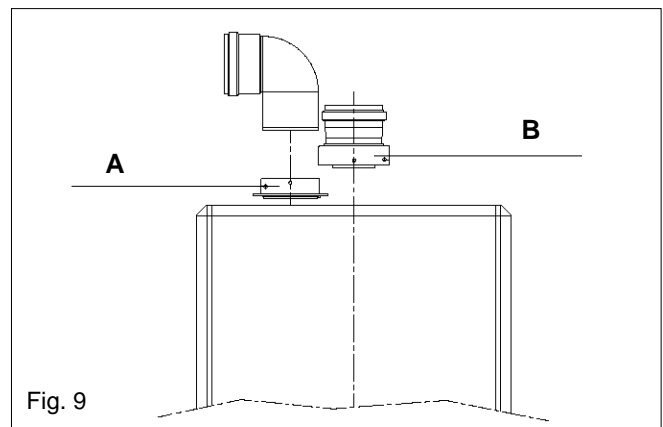

Fig. 9
**4.5.3.1 INSTALLATION OF TWIN ADAPTOR KIT (fig. 9)**
- Insert the exhaust connection manifold (B) onto the appliance flue outlet and secure to the flue spigot using the screws provided.
- Remove the blanking plates (located to the left of the appliance flue outlet) and – using the same screws – install the air baffle (A).